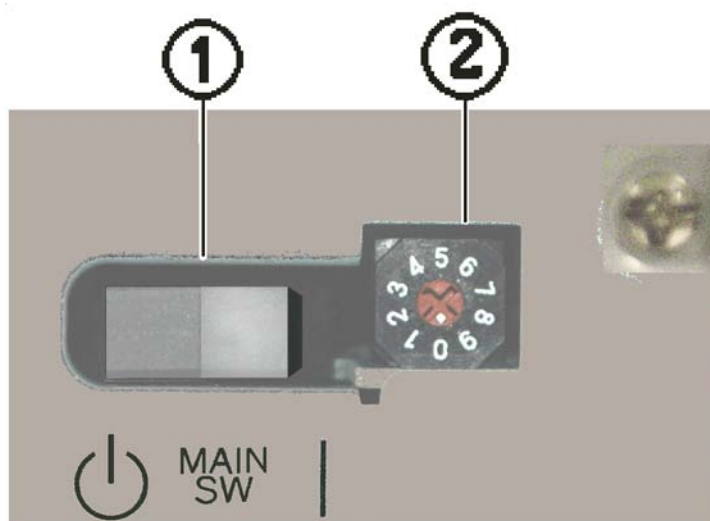

Figure 1-18: Base Unit Switch Panel
Figure 1-18 shows the base unit with the front bezel removed. The base unit switch panel is located at the lower right corner of the front of the array. The panel contains a power on-off switch and a mode switch, and is described in Table 1-10.
①	Power Switch As shown in Figure 1-18 , the power ON/OFF switch is labeled MAIN SW . - To turn the array power ON, press the right side of the switch (labeled). - To turn the array power OFF, press the left side of the switch.
②	Mode Switch This sets the Uninterruptable Power Supply (UPS) mode to either Local Mode or one of three remote modes. Leave this switch in the local mode (0) position.